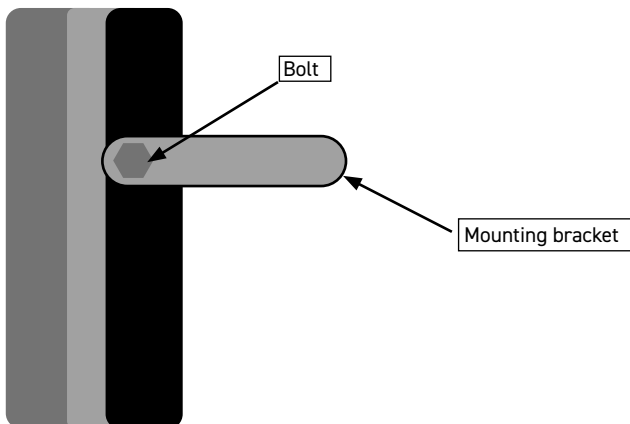

Fig1
- Remove the bolts either side of the base mounting bracket and remove bracket, see Fig 1